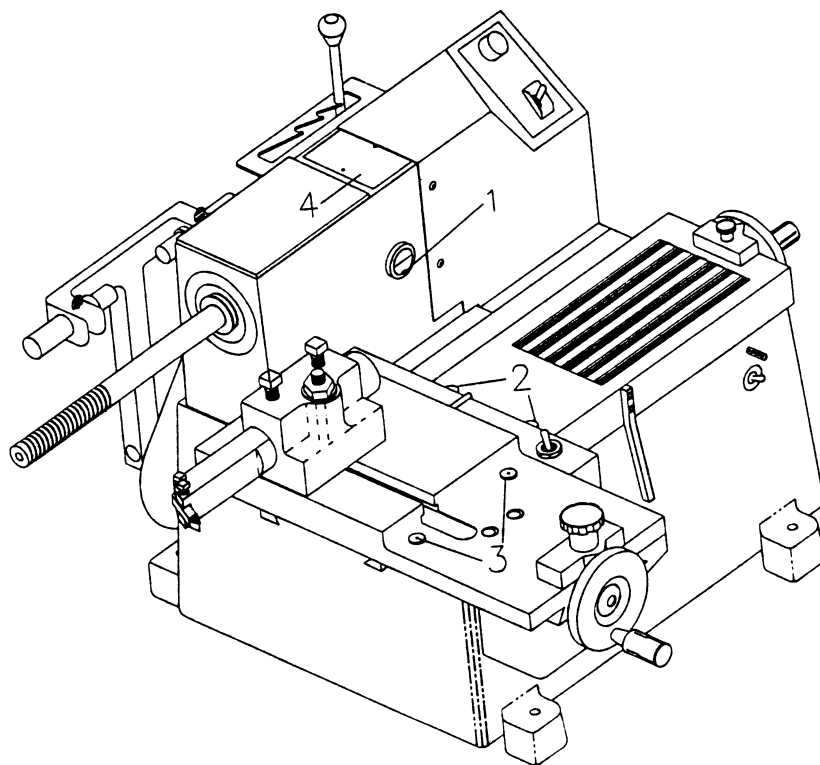

Fig. 1 Lubrication Points
- 6 Check oil level in spindle housing window (1, figure 1) before starting the lathe. Oil level is correct when window indicator shows half full in window. To fill, remove top plate (4, figure 1). Use S A E 90 gear oil.
- 7 Lubricate tool carriage ways and ALL lube points (2 & 3, figure 1) with a good grade SAE 10 oil. **NOTE:** Lathe should be cleaned and oiled daily when in use.